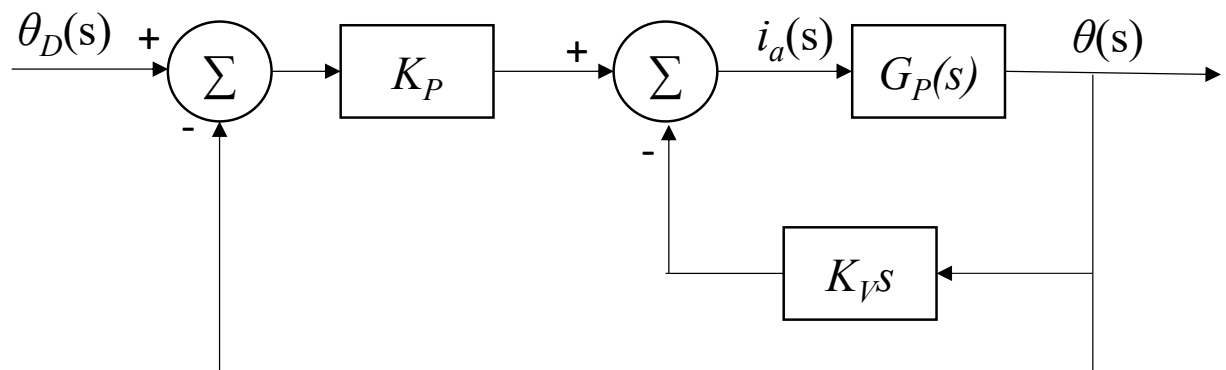

Figure 3. Block diagram of PV Control
4. Now change your PD and PID controllers to PV and PIV controllers, respectively. As shown in Figures 3 and 4, remove the derivative term from G_C and implement a separate velocity feedback, using the same values for K_V as you used for K_D . Show that this results in the same closed-loop pole locations as in problems 1 and 2, but now there is one less closed-loop zero. How does the presence/absence of the closed-loop zero influence the step response? Simulate and use plots to compare the responses. Also include a picture of your Simulink model(s).